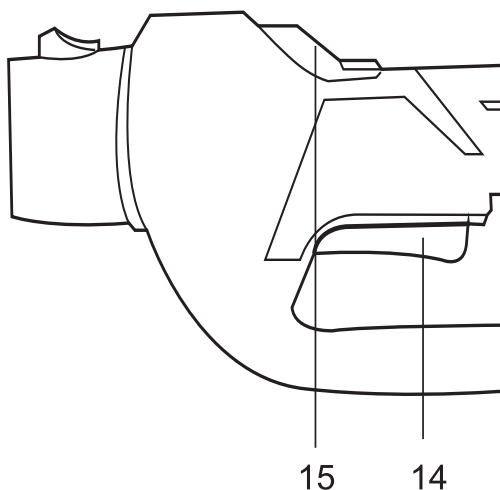

Fig. 15
1. Slide the lock-off switch (15) forward and hold it in position
2. Squeeze the on/off switch (9) to switch the product on, release the lock-off switch (8) afterwards.
3. Release the on/off switch (14) to switch the product off (Fig. 15).